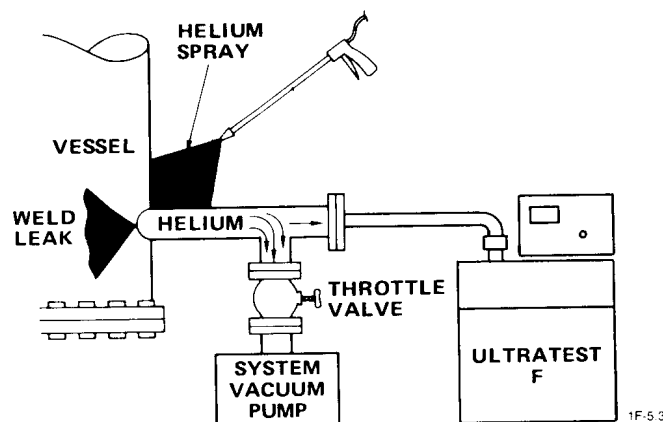

Figure 5-1 - Typical System for Leak Checking Using the Slipstream or Partial Flow Method
A system vacuum pump is needed if you want to detect coarse leaks or if the vacuum vessel is very large (see Figure 5-1). A system vacuum pump can also be used to decrease pump down time or to reduce the exposure of the leak detector to contaminants. The sensitivity of the leak detector is reduced when using this partial flow technique. To get full sensitivity, close the throttle valve after the test vessel is evacuated to an acceptable pressure.
Proceed as follows to find leaks using the slipstream or partial flow method (see Figure 5-1).
1. Plumb the leak detector into the vacuum system manifold as shown in Figure 5-1. Be sure to use good vacuum techniques to avoid new leaks; we recommend O-ring-sealed joints and welded tubes.